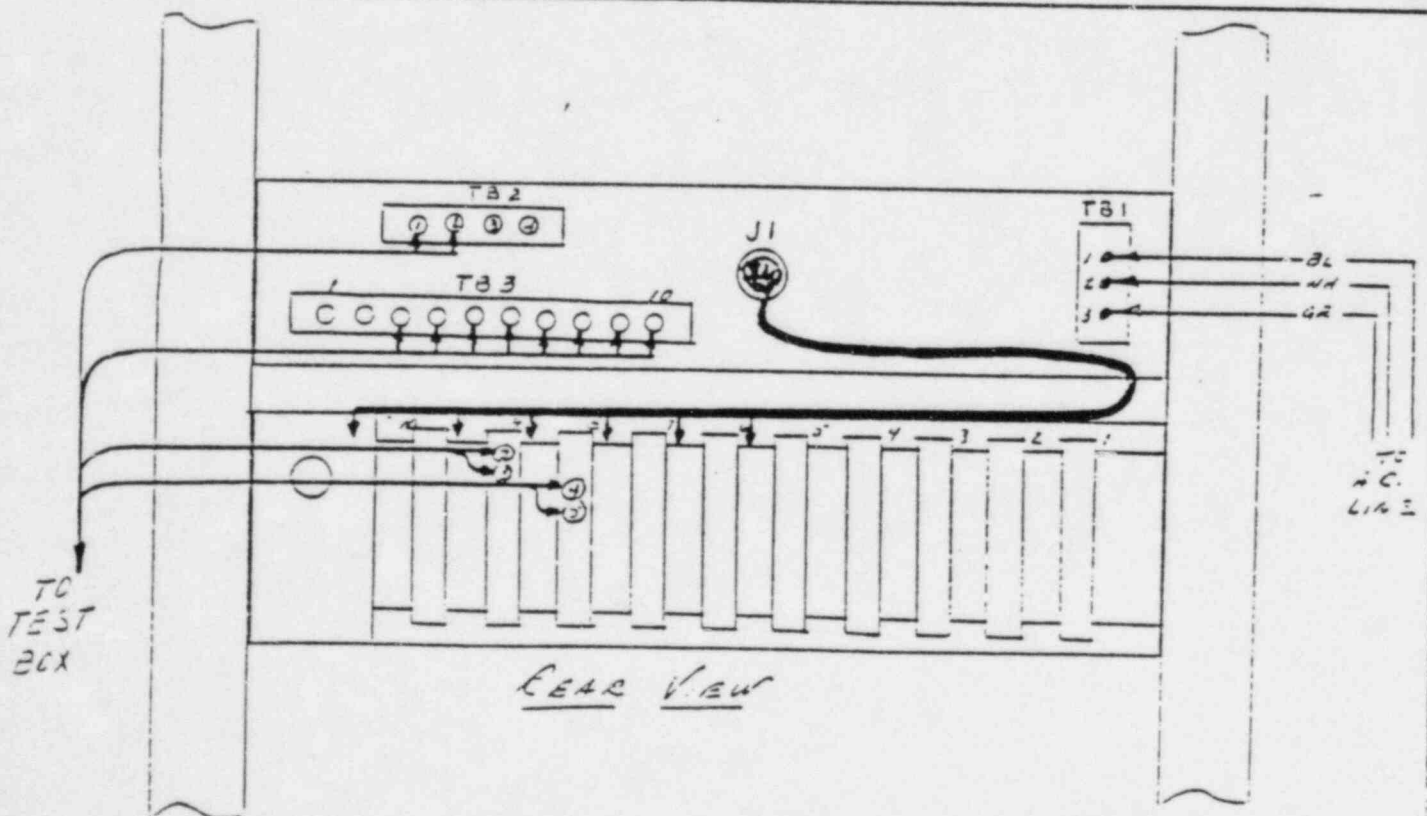

FIGURE 1B
- d) Turn off and disconnect the high potential tester. Re-install the removed boards per drawing 47E238806 and connect to the test box per Figure 1B. Leave all test box switches "Off". Connect the +15 VDC power supply as shown, and set it for approximately +15 V (this setting is not critical).